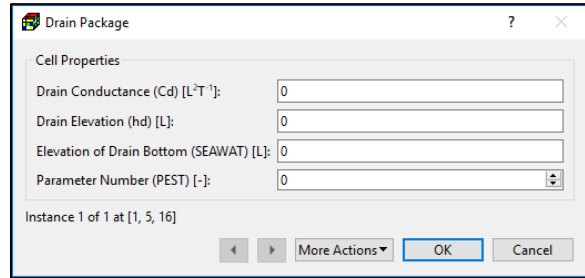

Figure 51. The Drain Package dialog box for specifying cell properties
1. **Cell-by-cell input method:** Figure 51 shows the dialog box for specifying one or more drain segments to a model cell. For each segment, the following properties need to be assigned.